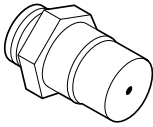

Figure 68
A. Remove the orifice from the manifold and replace it with the one provided in the kit. See the following table for orifice sizes for natural and propane models. **Figure 68** illustrates the orifice.